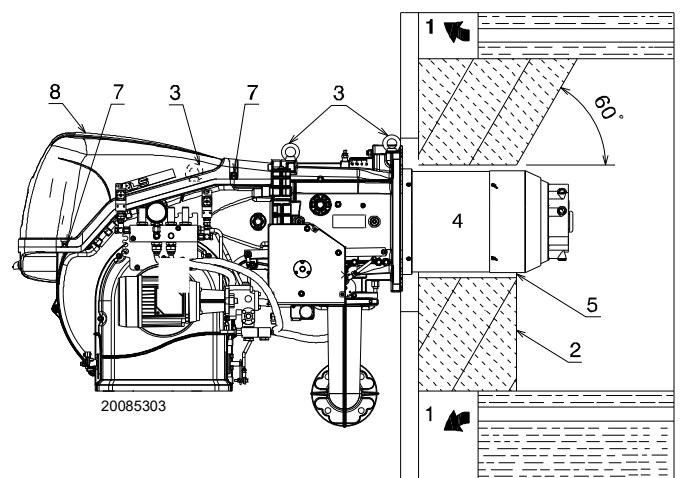

Fig. 13
For boilers with front flue passes 1)(Fig. 13) or flame inversion chamber, a protection in refractory material 5) must be inserted between the boiler fettling 2) and the flame funnel 4).
Prepare a suitable lifting system using rings 3)(Fig. 13).
- Fit the heat insulation supplied onto the blast tube 4)(Fig. 13).